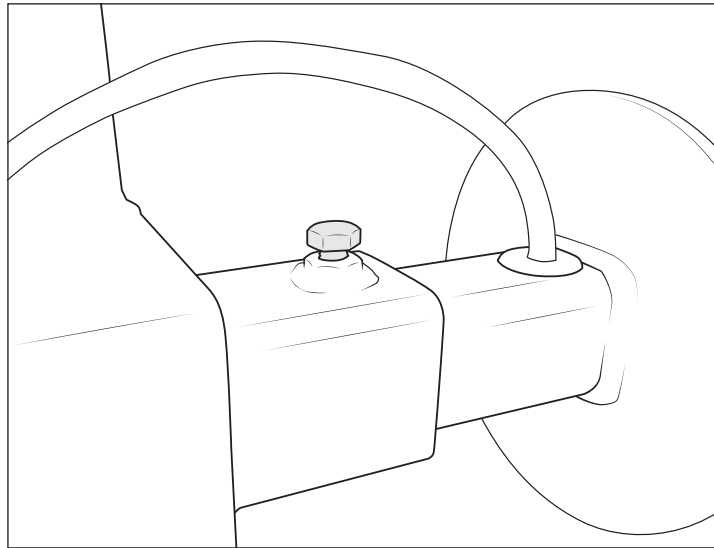

Figure 23
11. Temporarily install the M10 X 20 anti-vibration bolt into the Tire Carrier. Tighten it a bit to prevent the 1/2" bolt from sliding rearward when the tire is initially installed so that it cannot damage the tailgate. Tighten this bolt fully after the tire is on for the first time and after the 1/2" bolt has been adjusted (fig. 23).